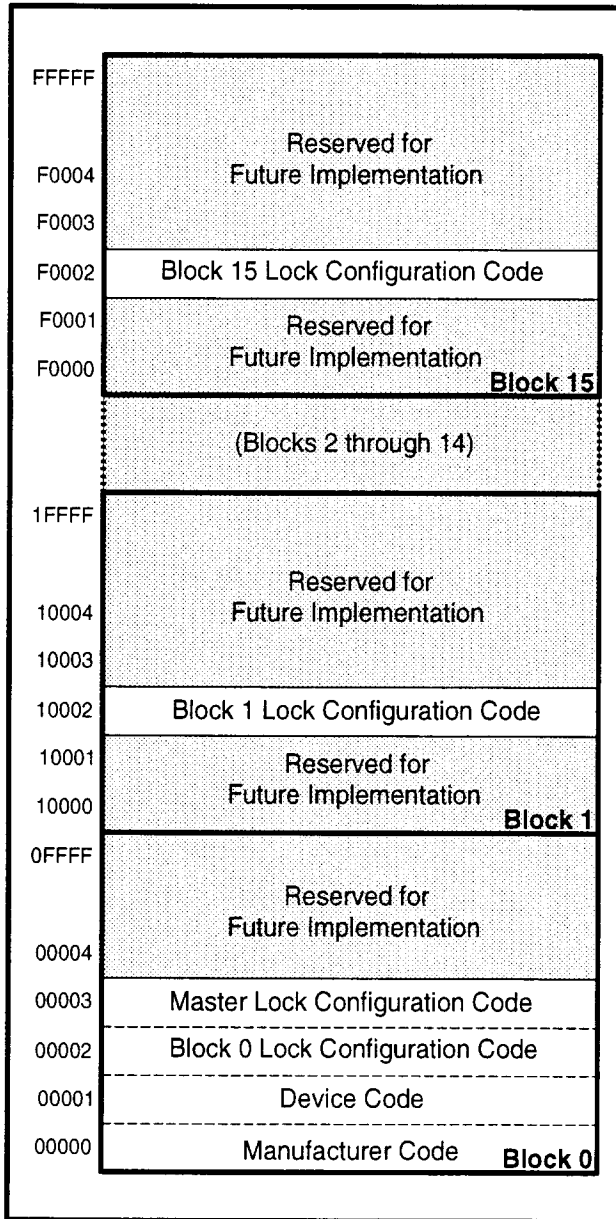

Figure 4. Device Identifier Code Memory Map
The read identifier codes operation outputs the manufacturer code, device code, block lock configuration codes for each block, and the master lock configuration code (see Figure 4). Using the manufacturer and device codes, the system CPU can automatically match the device with its proper algorithms. The block lock and master lock configuration codes identify locked and unlocked blocks and master lock-bit setting.
| Read Identifier Codes |         | V IH or V HH | V IL | V IL | V IH | See Figure 4 | X               | Note 5            | V OH |
IA=Identifier Code Address: see Figure 4.
The identifier code operation is initiated by writing the Read Identifier Codes command. Following the command write, read cycles from addresses shown in Figure 4 retrieve the manufacturer, device, block lock configuration and master lock configuration codes (see Table 5 for identifier code values). To terminate the operation, write another valid command. Like the Read Array command, the Read Identifier Codes command functions independently of the  $V_{PP}$  voltage and RP# can be  $V_{IH}$  or  $V_{HH}$ . Following the Read Identifier Codes command, the following information can be read:
1. X selects the specific block lock configuration code to be read. See Figure 4 for the device identifier code memory map.